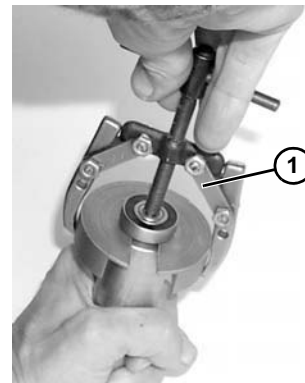

Figure 113
2. Using puller part #807-1716 (Figure 113, item 1), remove and discard bearing.